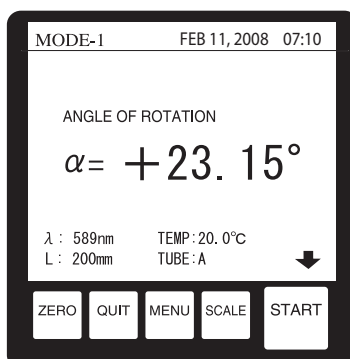

Fig.15-6
d) Measurement value will be displayed on the display screen (Fig.15-6).